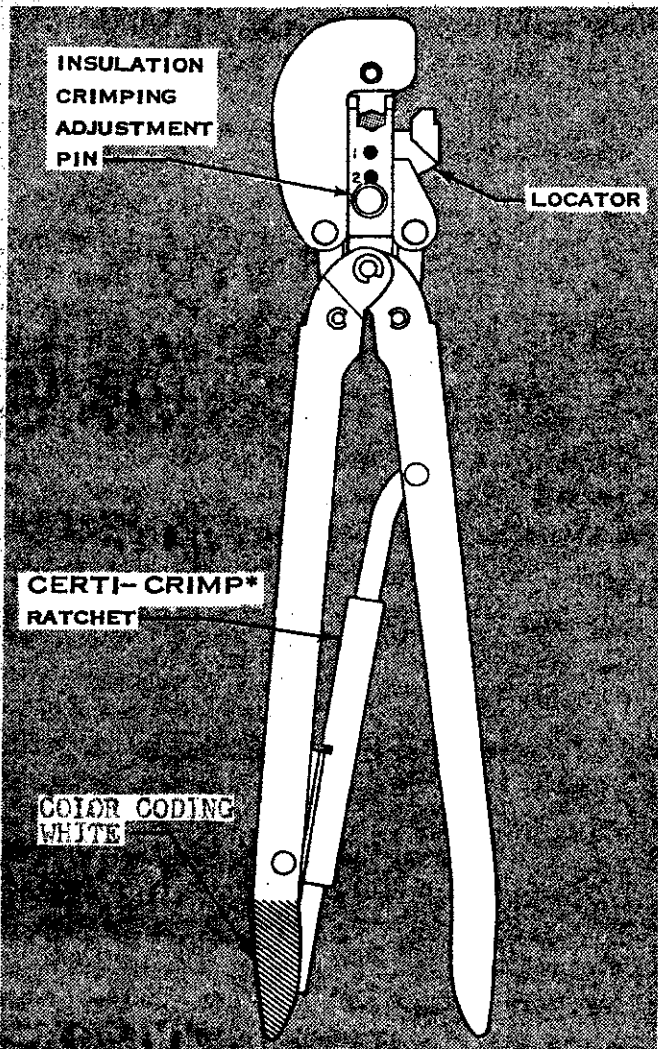

Fig. 1
1. The Tools, see Figure 1, covered by this Instruction Sheet are used to crimp A-MP 16-14 H.D. PLASTI GRIP\*(PG)Terminals.
(a) To open Tool Handles, squeeze them until CERTI-CRIMP Ratchet (see Figure 1) releases. Note that once Ratchet is engaged, Handles cannot be opened.